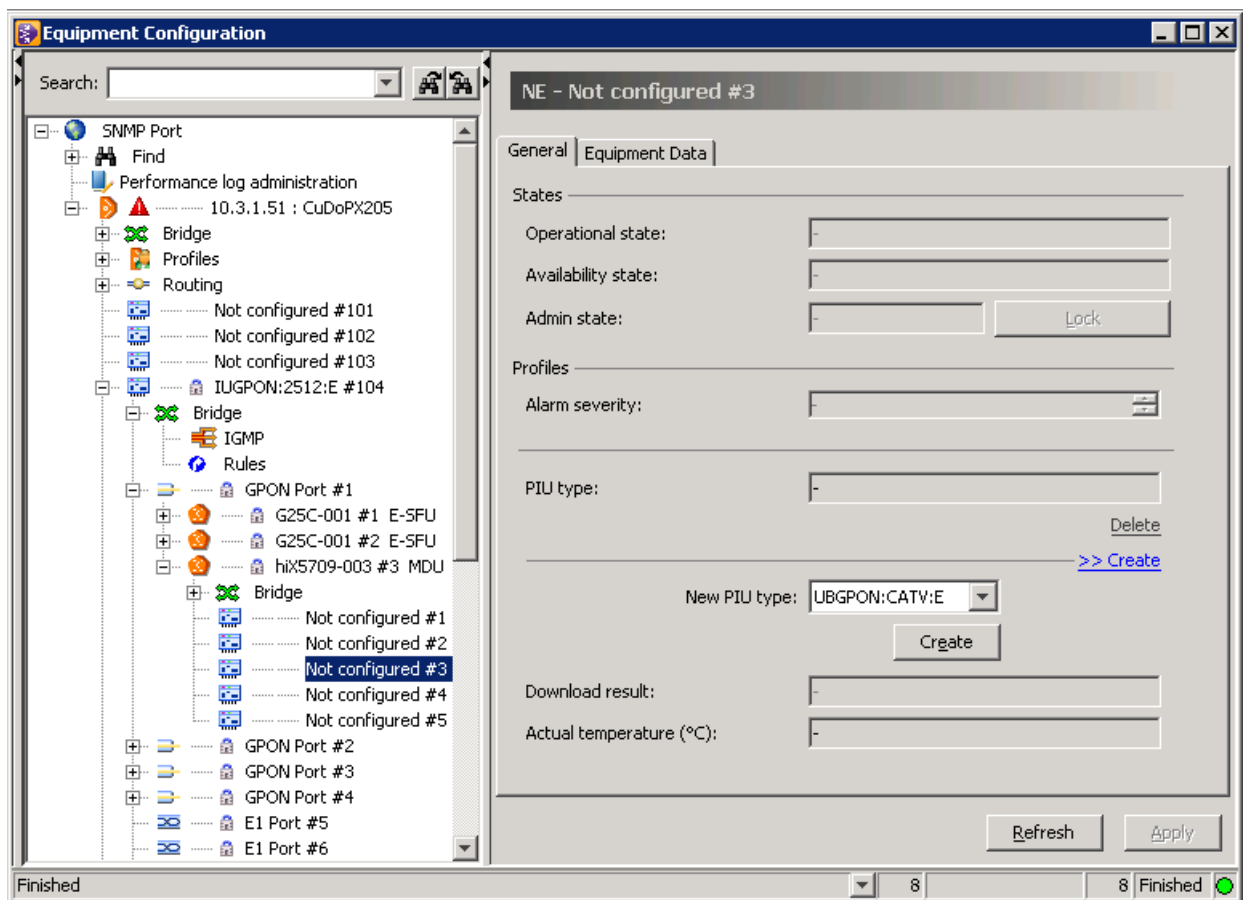

Figure 27 Creating an MDU Board
2. Click the “<<Create” action field to uncover the “New PIU type” selection field, see Figure 27.